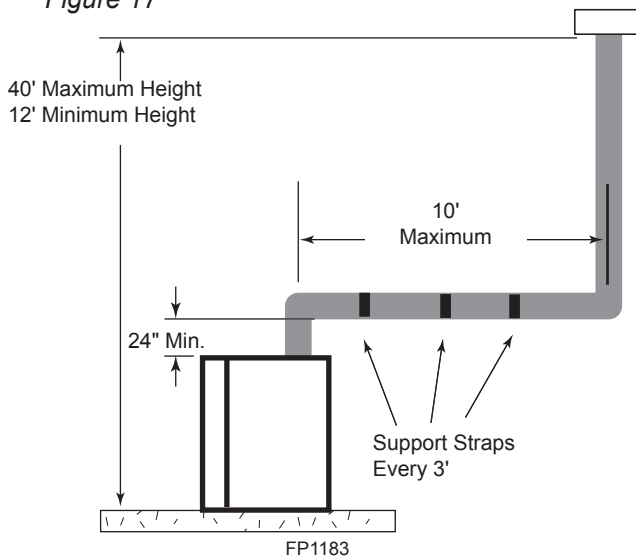

Figure 17 - Support Straps for Horizontal Runs
- Vertical installations up to 40' (12 m) in height. Up to a 10' (3 m) horizontal vent run can be installed within the vent system using a maximum of two 90° elbows. *Figure 17*
NOTE: If an offset is needed to avoid obstructions, you must support the vent pipe every three (3) feet. Use wall straps for this purpose. *Page 17, Figure 17.* Whenever possible, use 45° elbows instead of 90° elbows. The 45° elbow offers less restriction to the flow of the flue gases and intake air.